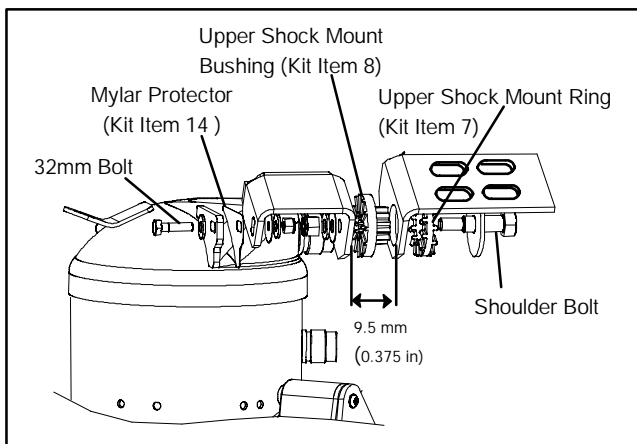

Figure 6-7 Compressor Upper Mounting
- h. Remove the entire compressor upper mounting bracket assembly, (see Figure 6-7) by removing the four cap screws attaching it to the unit and the 32-mm bolt from the compressor mounting bracket.
- s. Reassemble the top mounting bracket (see Figure 6-7) by hand tightening the 32-mm (1¼ -inch) bolt and torquing the four mounting screws to 0.9 mkg (6.5 ft-lbs). Align the mounting so that the ring and bushing assembly are free with no compression.
- u. Replace the power plug O-Ring with new ring (kit item 9). Insert the power plug into the compressor fitting. Be sure plug is fully seated into the fitting and then thread the coupling nut a minimum of 5 turns.